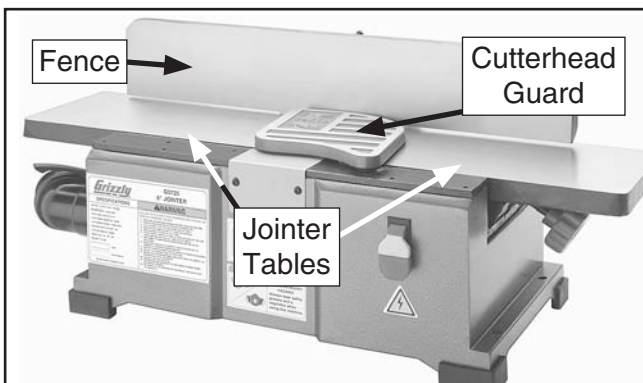

Figure 15. Fence positioned over the jointer tables.
- Slide the fence forward until it contacts the cutterhead guard. The guard should completely cover the cutterhead, as shown in **Figure 15**.